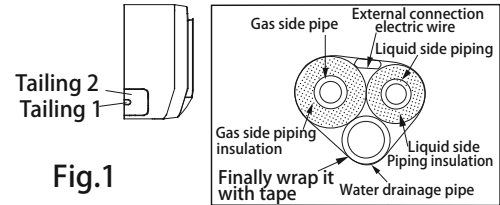

Fig.1
1. When routing the piping and wiring from the left of the indoor unit, cut off the tailings from the chassis if necessary (Show in Fig.1)